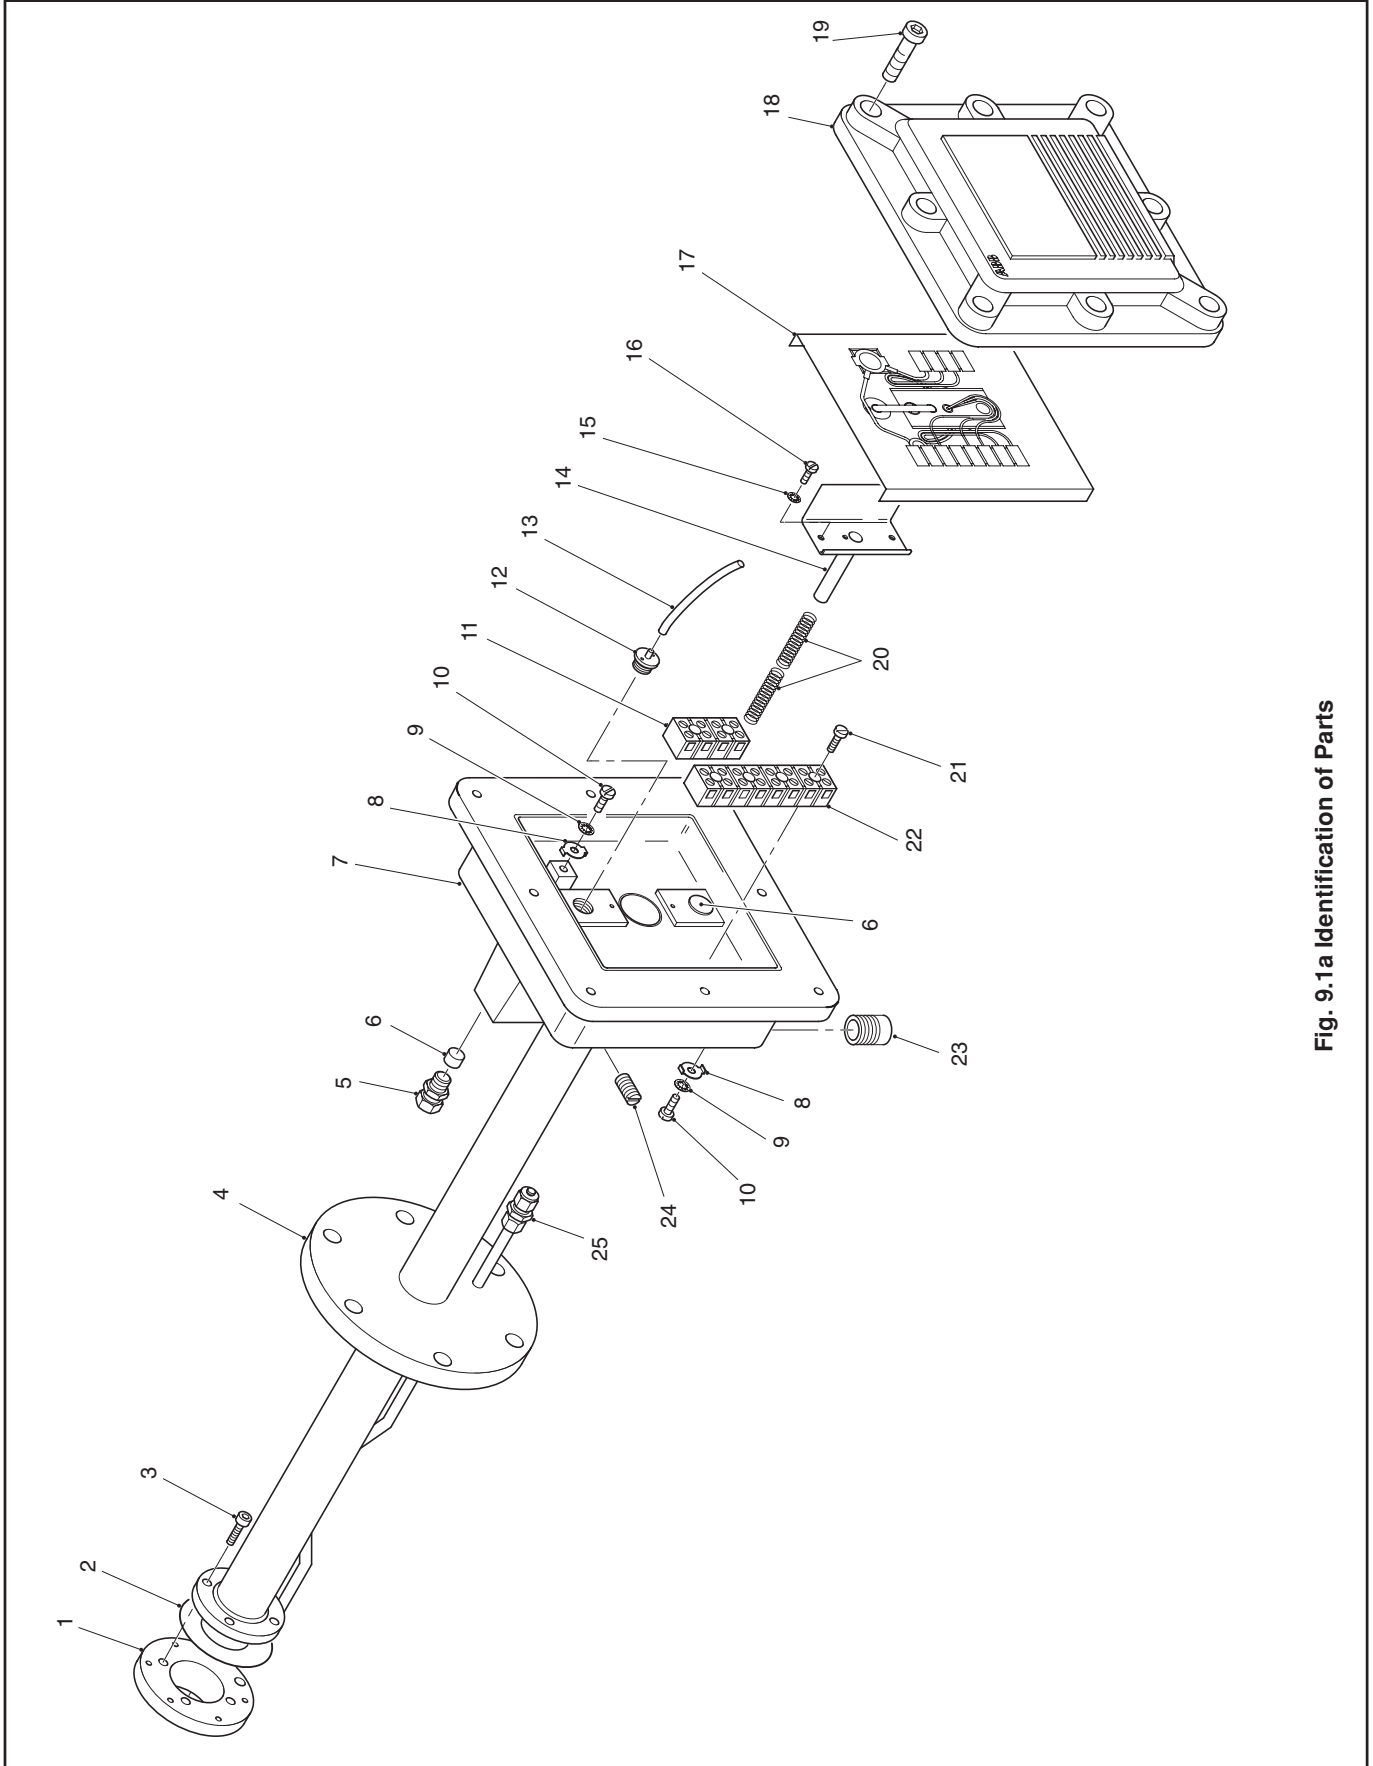

Fig. 9.1a Identification of Parts
9.1 Illustrated Parts List – Fig. 9.1a and 9.1b
...9.1 Illustrated Parts List – Figs. 9.1a and 9.1b